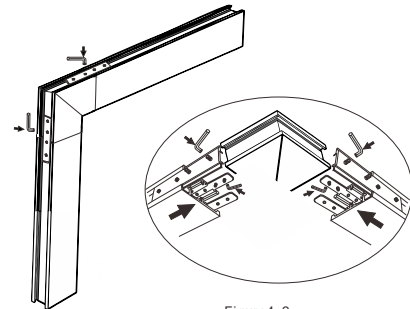

Figure4.2
2. Fix the metal plate with vertical inner L Angle with the track inner pin and back slot, and fix it with an inner six-pin wrench Good screw; (Figure 4.2)